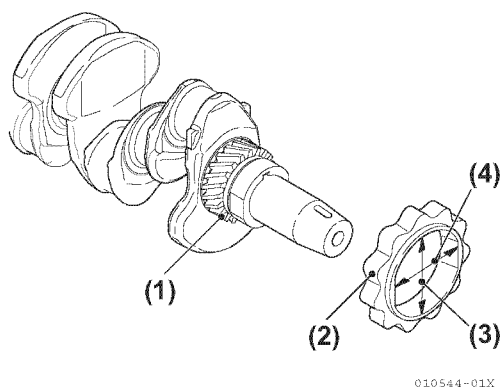

Figure 8-17
4. Inner rotor and gear boss clearance for 3JH4E and 4JH4AE (Figure 8-17).